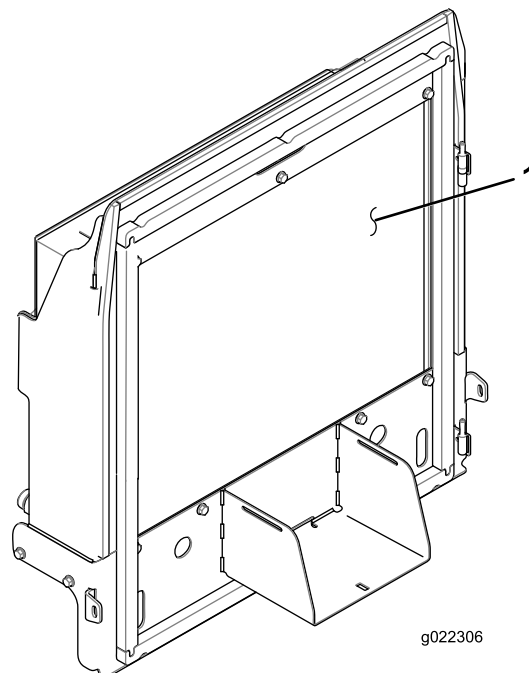

Figure 71
4. Thoroughly clean both sides of the radiator and oil cooler (Figure 71) with compressed air.